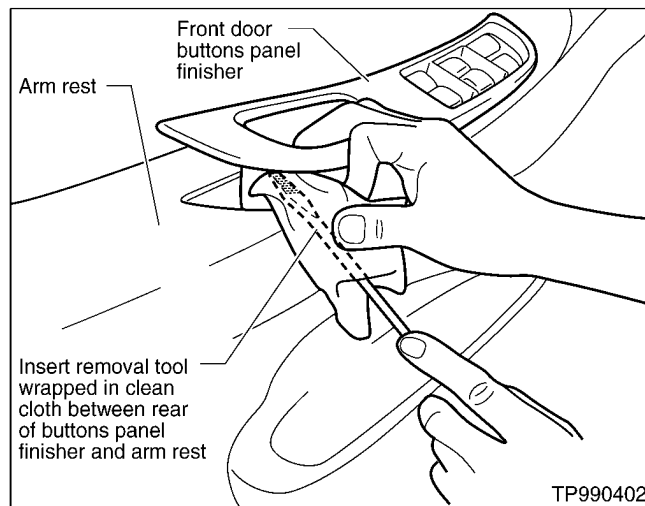

Figure 13
- A. Insert a removal tool wrapped in a clean cloth between the rear of the buttons panel finisher and the arm rest (see Figure 13).